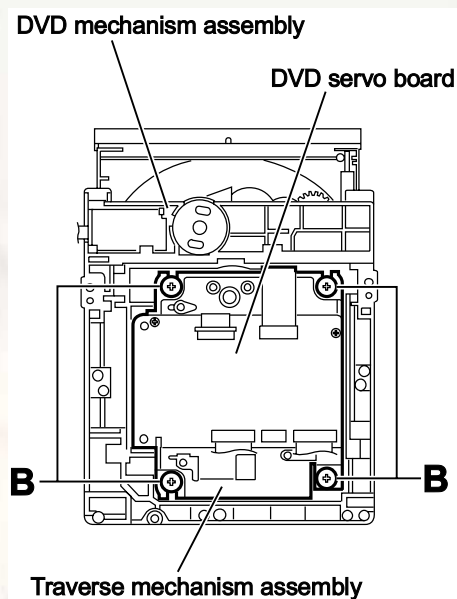

Fig.4
3.2.2 Removing the traverse mechanism assembly (See Figs.4)